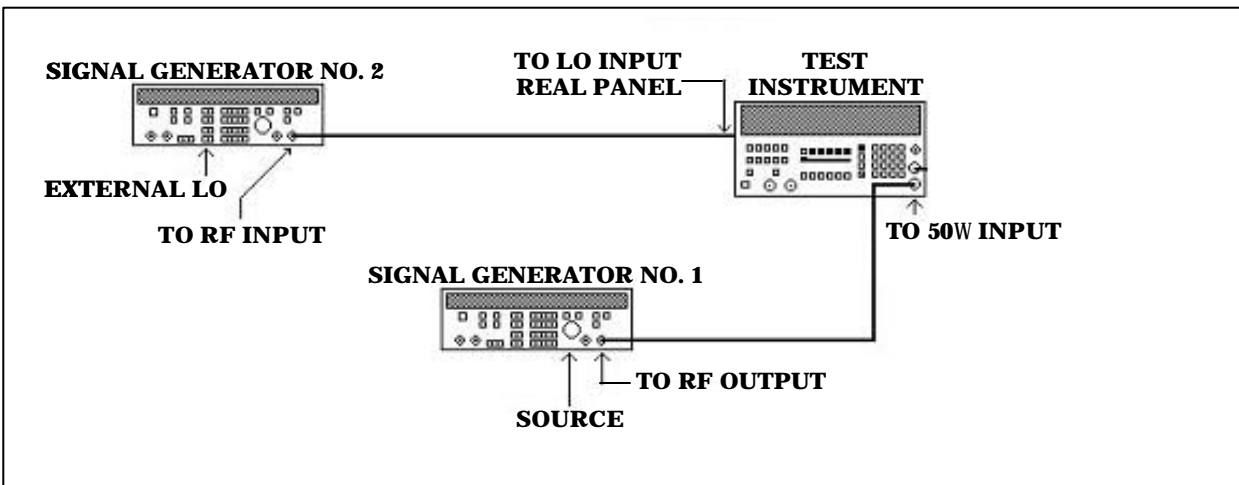

Figure 18. High select filters – equipment connection.
(11) TI display will be $=-30$ dB.
(12) Decrease signal generator No.1 frequency by 3 kHz.
(13) TI display will be $=-80$ dB.
(14) Tune signal generator No.1 up until TI indicates 0 dB, and then continue on until TI indicates -6.00 dB.
(15) Record signal generator No.1 frequency as Freq. #2.
(16) Subtract Freq. #1 from Freq. #2. The difference should be between 12.4 and 16.9 kHz.
(17) Increase signal generator No.1 frequency 18.5 kHz above frequency recorded as Freq. #1.
(18) TI display will be $=-30$ dB.
(19) Increase signal generator No.1 frequency by 3 kHz.
(20) TI display will be $=-80$ dB.
(21) Connect equipment as shown in figure 18 below.